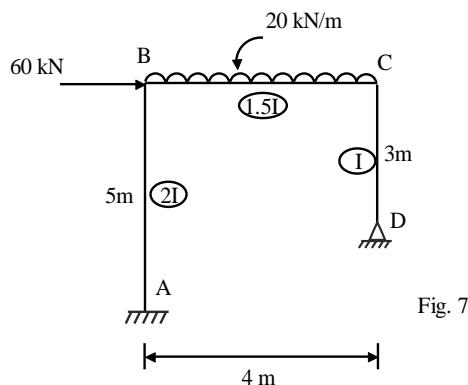

Fig. 7
7. For the portal frame as shown in fig.7. Find the horizontal thrust. Draw B.M.D. Use strain energy method. 16